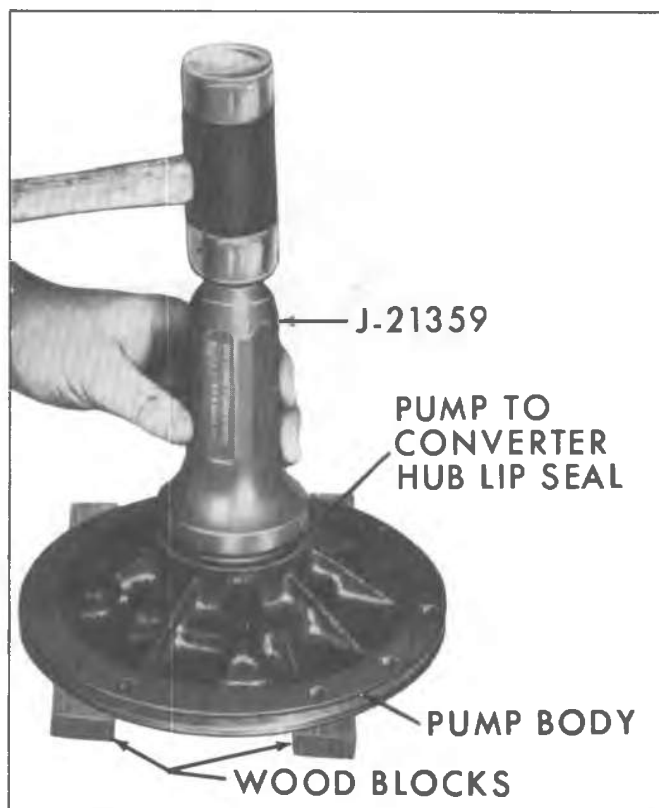

Fig. 7A-65B--Installing Hub Lip Seal
3. Install pump drive gear and driven gear (fig. 7A-66B).
5. Install three (3) direct clutch to pump hub hook type oil seal rings. Install two (2) forward clutch to pump hub hook type oil seal rings.